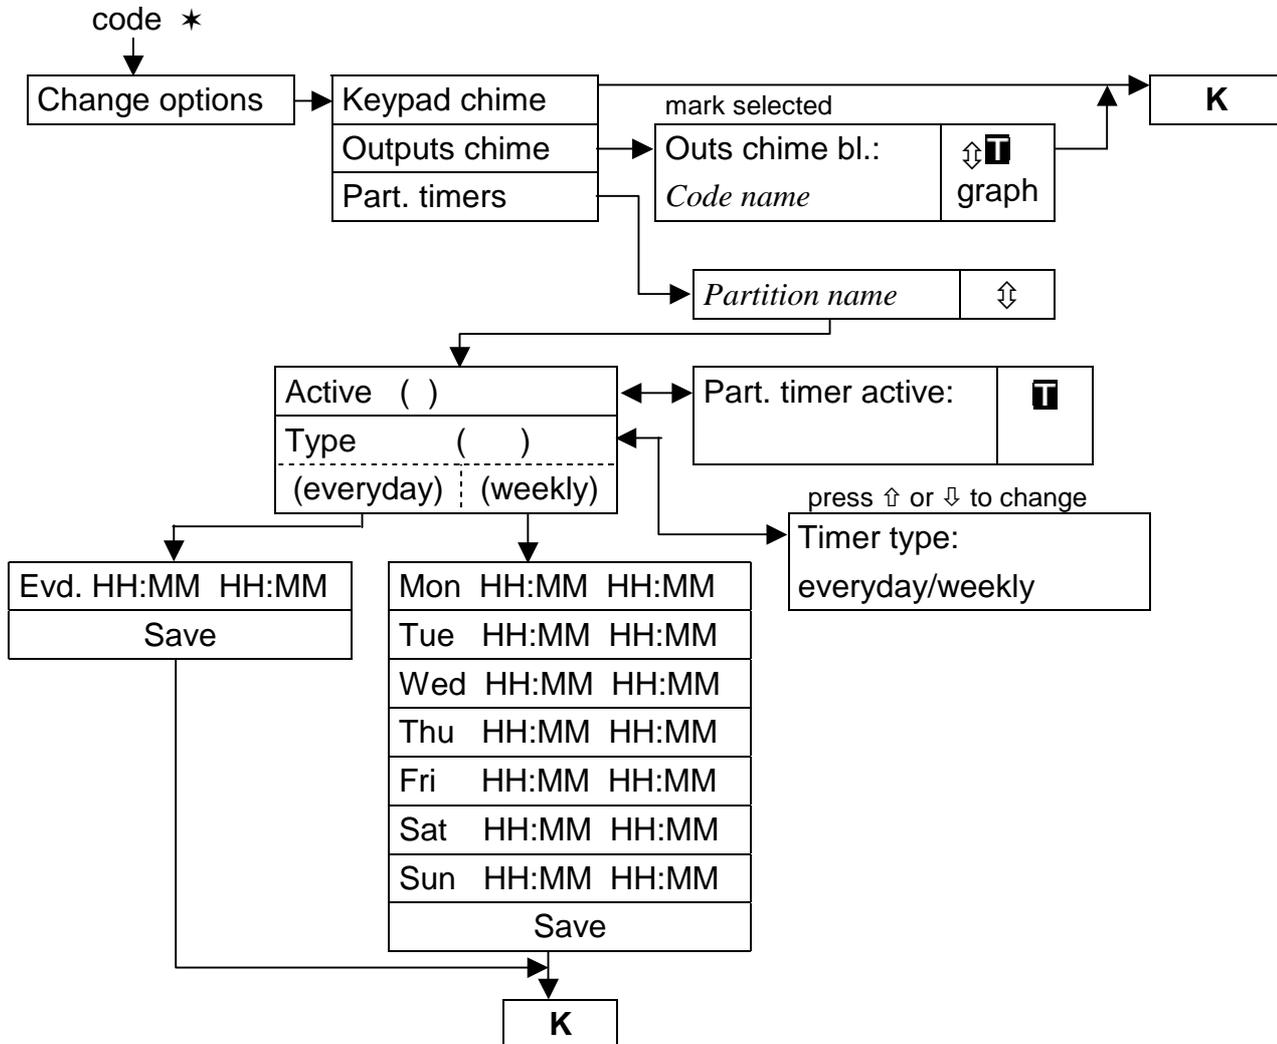

Figure 22
1. To enable timer operation, mark the parameter „Active (☑)” (Figure 22).
4. Then, enter hour (HH) and minutes (MM) of timer switching on. Press key ↑ or ↓ to enter hour and minutes of timer switching off. To accept data entered, press key